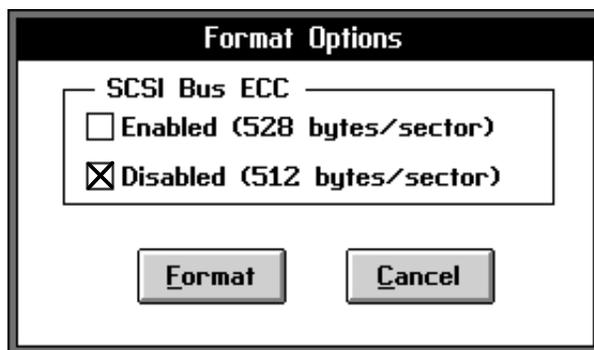

Figure 27. Format Options Window
1. Select the "Format" button in the drive's information window. This will cause the "Format Options" window to appear, Figure 27.